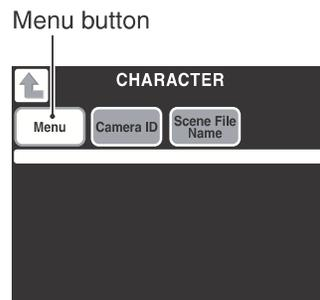

Fig.2
- The screen shown in Fig.2 is displayed.